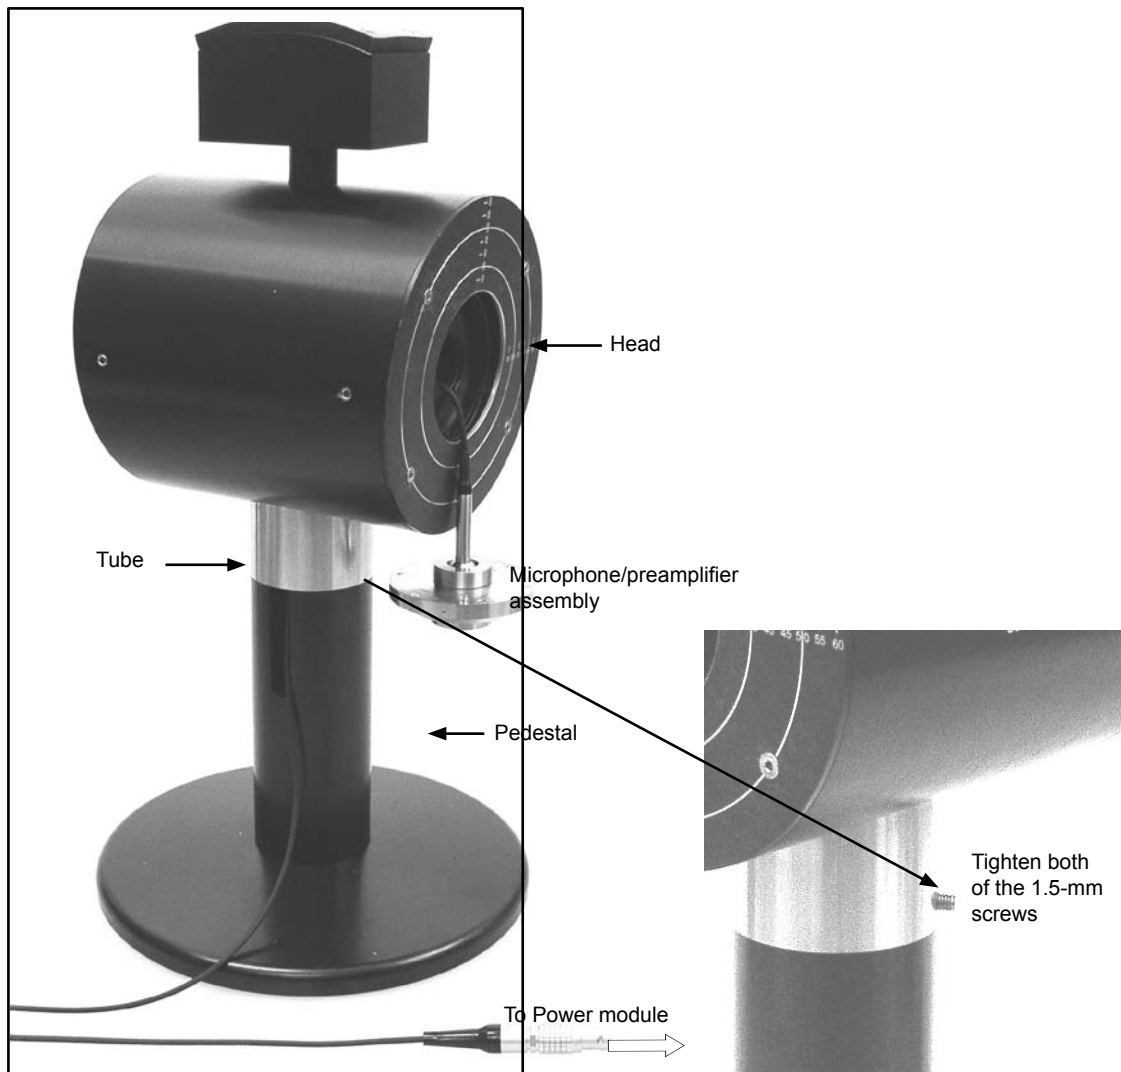

Fig. 5.15
- Test equipment such as the instruments shown in Fig. 5.15
8. Replace the head onto the pedestal (Fig. 5.15)